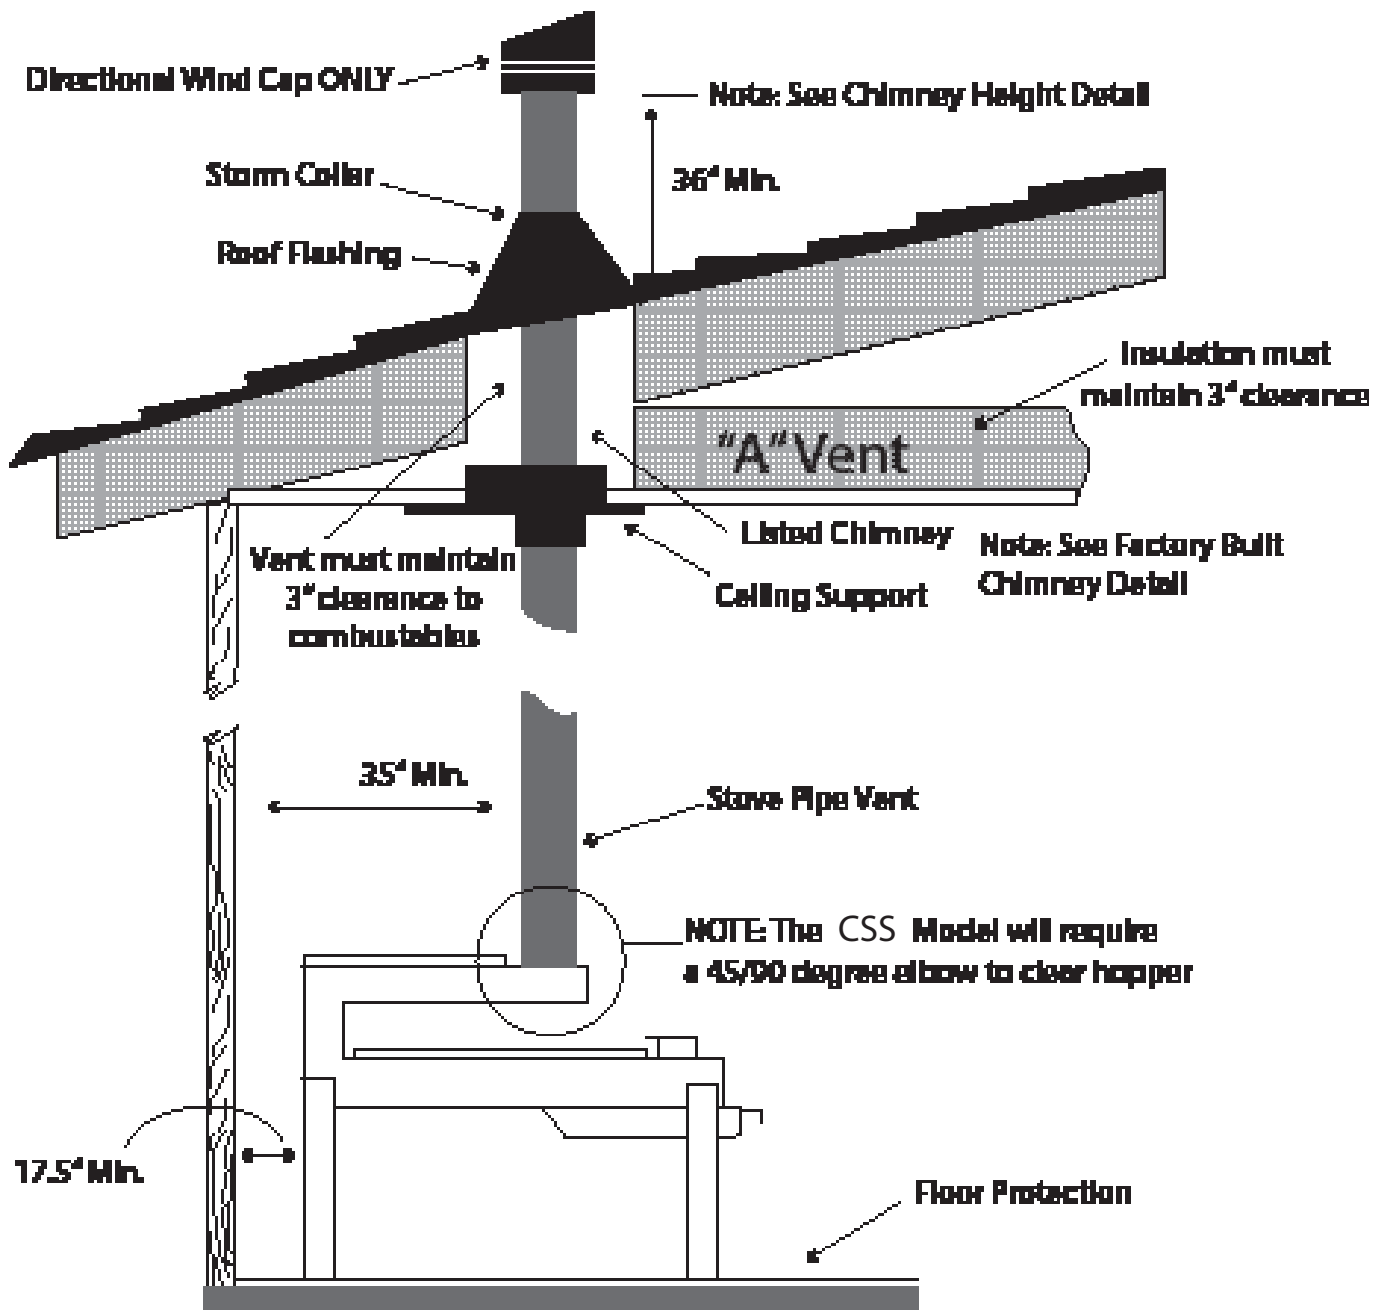
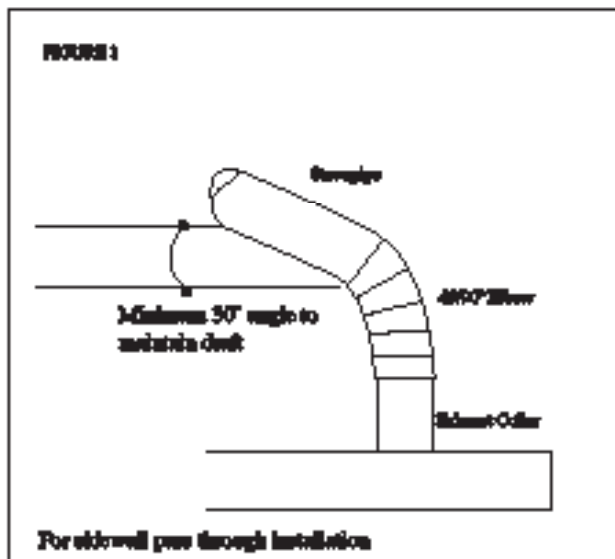

FIGURE 7
FIGURE 9
SEE FIG. 4, FIG.5, FIG.6, FIG. 7, FIG. 8, AND FIG. 9
- Use a listed ceiling support/fire stop spacer when passing through combustible ceiling framing (see FIG. 5 and FIG. 7).